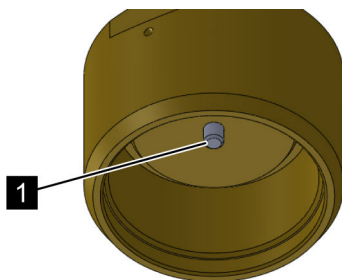

Fig. 22: Release pin
4. ➤ Ensure that the release pin (Fig. 22/1) of the electric release device is not active.